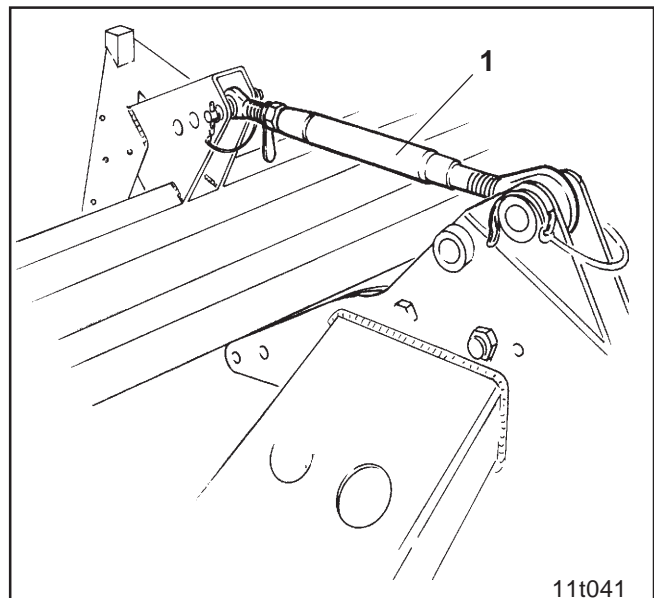

Fig. 22.5
- Fix upper link (Fig. 22.5/1) on the Pack Top sowing module and the soil tillage implement and secure fixing pins with clip pins.
- Align Pack Top sowing module AS by adjusting the upper link (Fig. 22.5/1).